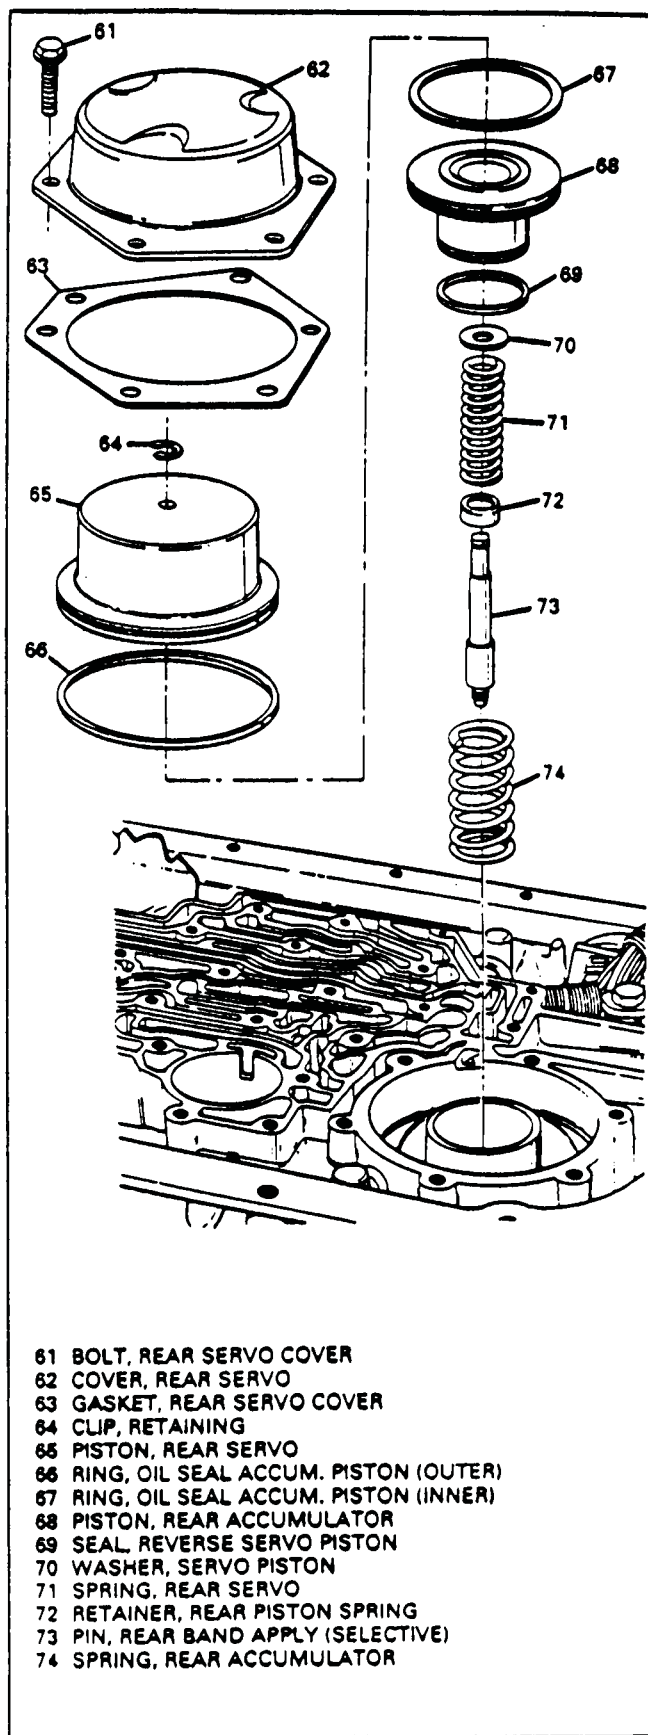

Figure 41
24. Remove six retaining bolts for the reverse servo cover, and remove reverse servo cover (See Figure 41).
25. Remove the reverse servo assembly and the 1-2 accumulator assembly as shown in Figure 41.